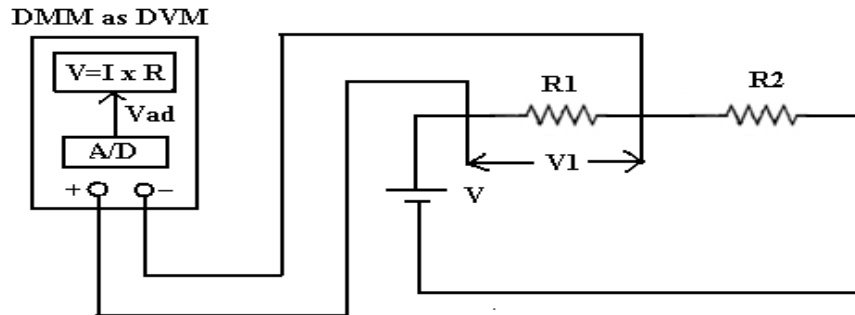

Fig 1 : CIRCUIT DIAGRAM OF MULTIMETER IN VOLTAGE MODE
The working of Digital Multimeter can be explained with the help of resistive circuit which has two resistor (R_1 and R_2), as shown in Fig 1, connected in series to the power supply with some voltage (V)
For voltage measurement the DVM should have infinite or very large input resistance. In figure1, the multimeter senses the voltage drop produced across the resistor R_1 and provides this input to the internal A/D converter IC. This IC converts the analog input into digital output–The digital voltage is finally displayed with the help of a controller.